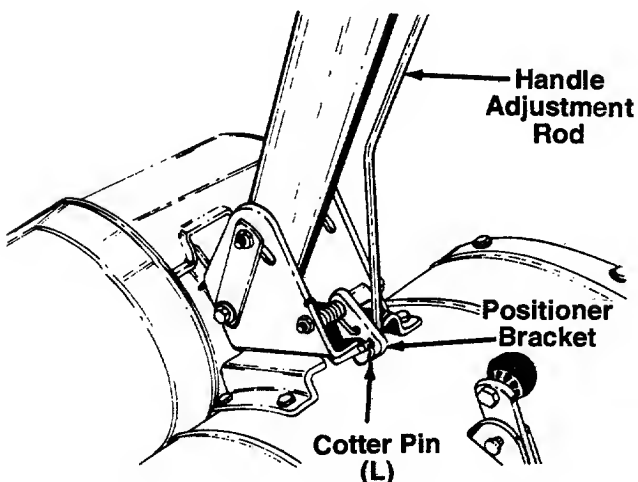

FIGURE 14.
29. Insert the hooked end of handle adjustment rod into the positioner bracket as shown in figure 14. Secure with cotter pin (L). Secure by bending ends of pin in opposite directions.